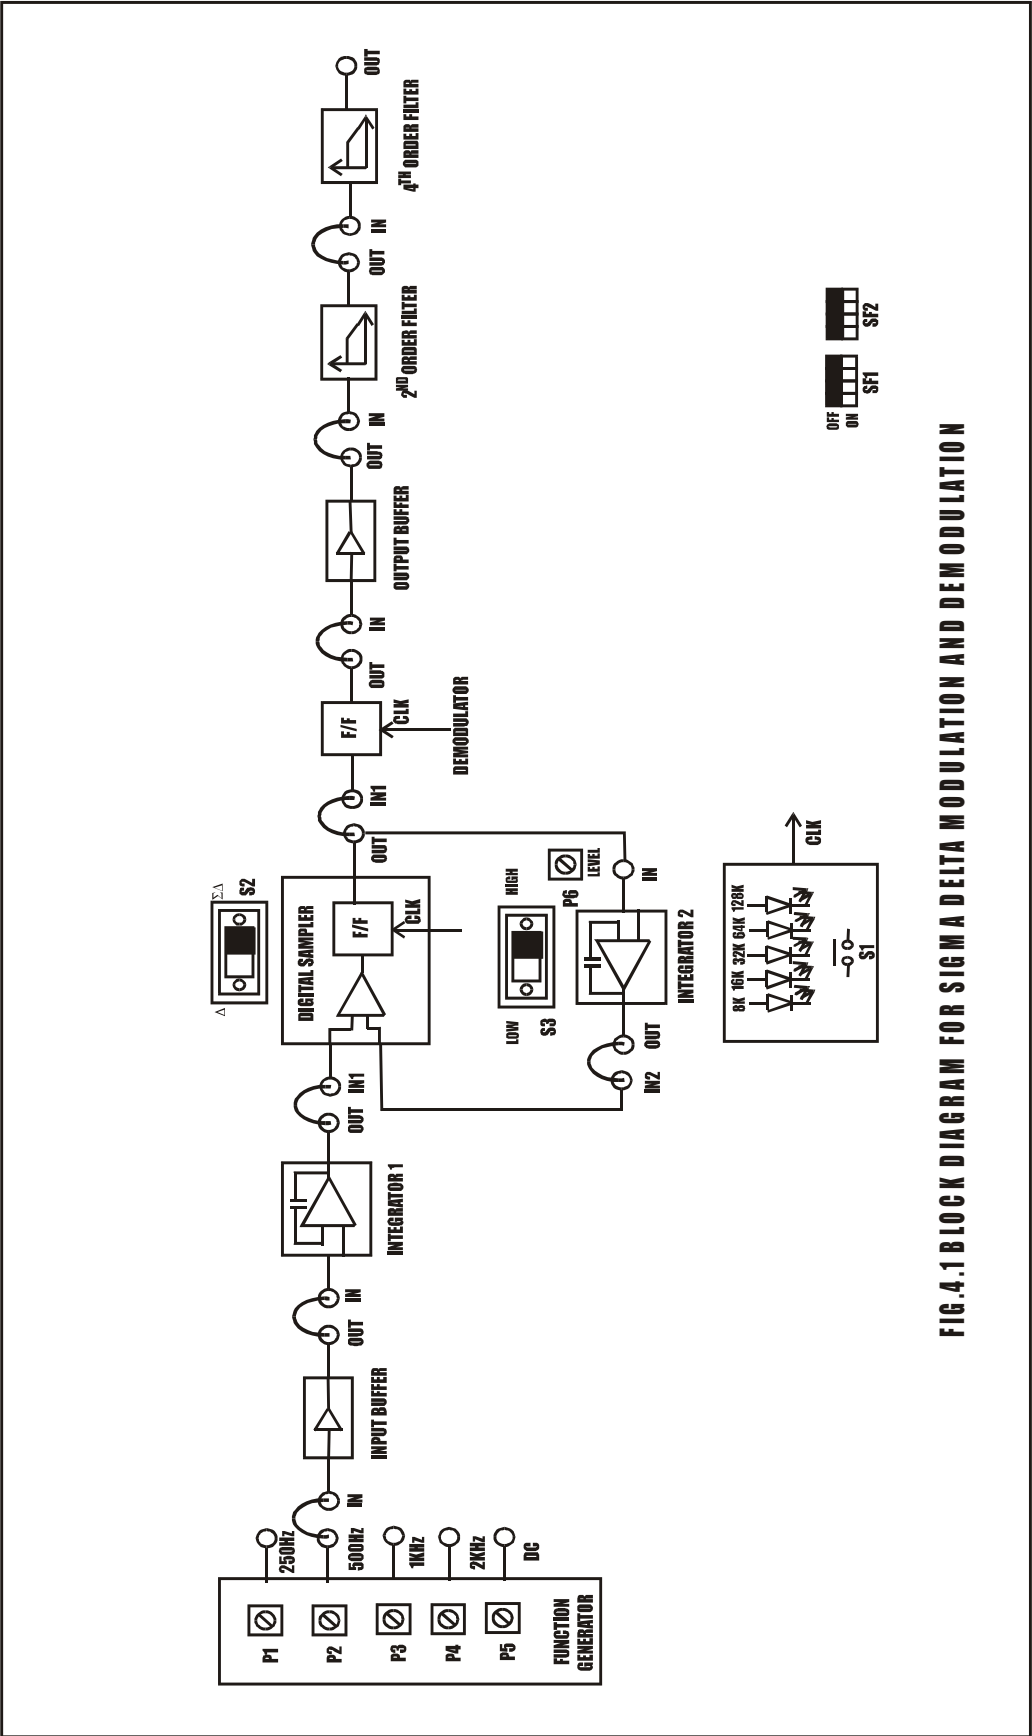

FIG.4.1 BLOCK DIAGRAM FOR SIGMA DELTA MODULATION AND DEMODULATION
1. Refer to the block diagram (Fig. 4.1) and carry out the following connections.